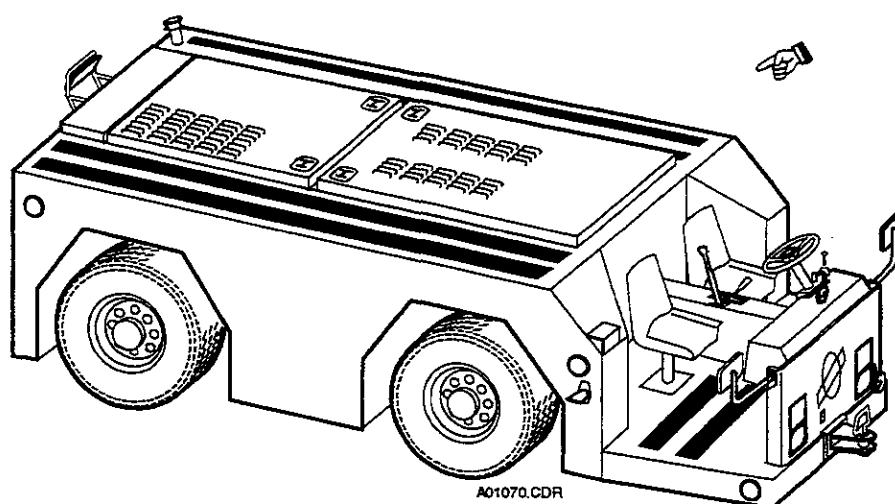

FIGURE 1.1 MODEL GT-50DZ TOW TRACTOR
1.2.2 The Model GT-50DZ Tow Tractor (Figure 1.1) is comprised of the following major components and systems: engine, transmission, driveline assembly, fuel system, air intake system, lubrication system, cooling systems, steering system, brake system, and electrical system.